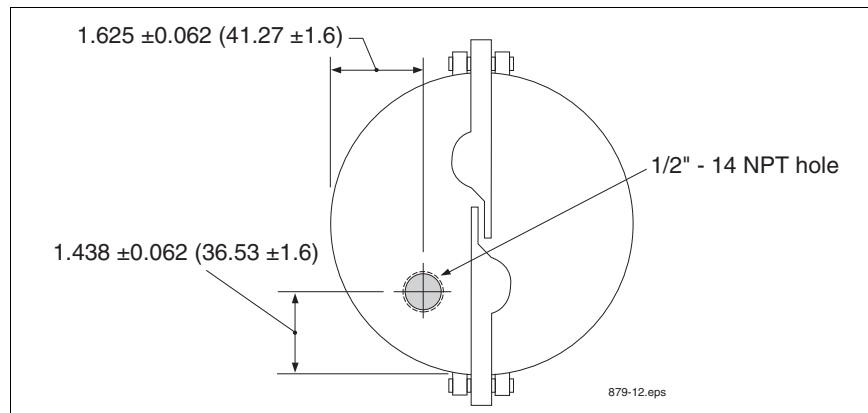

Figure 15. Modifying An Existing Metal Riser Cap
2. Drill and tap the cap for a 1/2"-14 NPT cord grip thread [Figure 15].